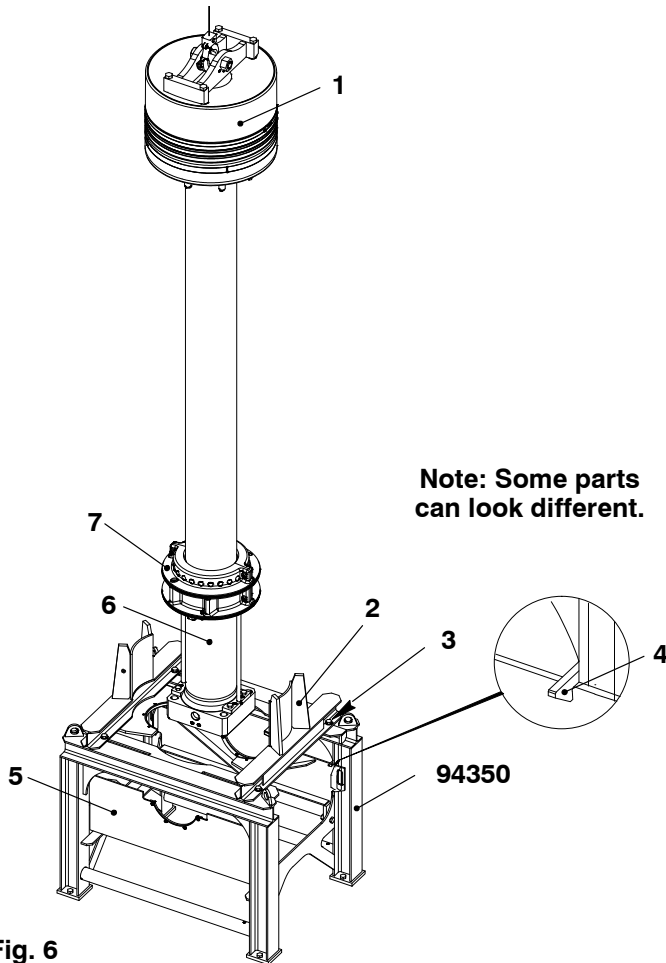
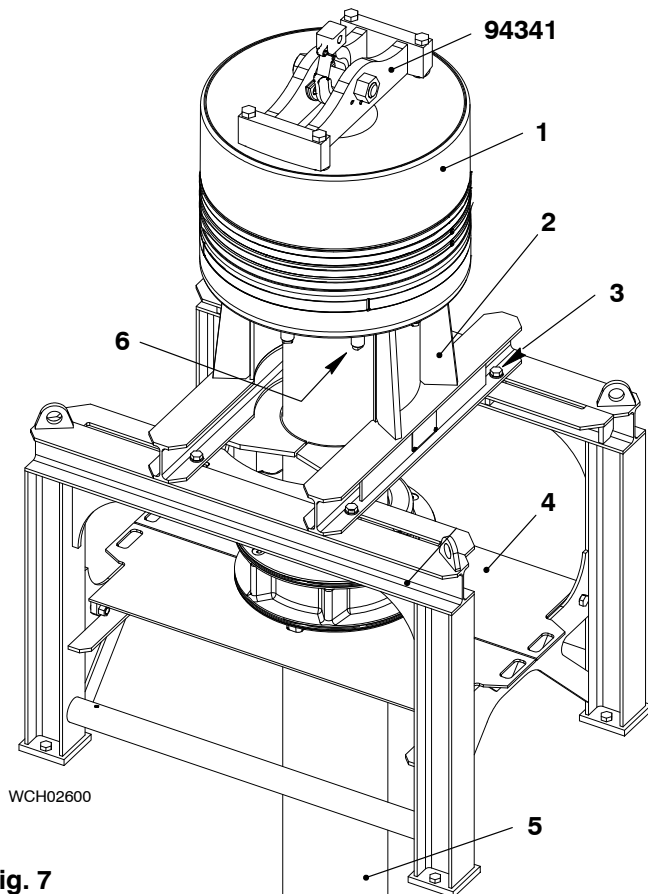

Fig. 6
Fig. 7
- 1) Make sure that the device (94350, Fig.6) is installed correctly on the top platform.
- 2) Use the crane to carefully lift the piston (1) from the cylinder.
- 3) Make sure that the piston rod foot (6) does not touch the support of the piston rod gland (7).
- 4) Loosen the screws (3) of the device (94350).
- 5) Move the supports (2) out.
- 6) Open the two hinged plates (5).
- 7) Make sure that the bars (4) lock the hinged plates (5) in the open position.
- 8) Lower and align the piston (1, Fig.7) between the supports (2).